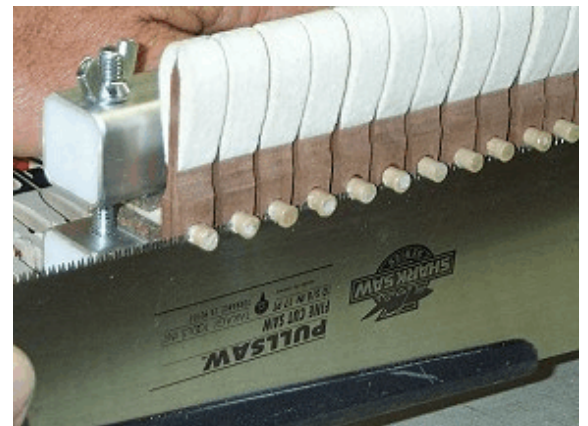

Figure 16: sawing off shank stubs
2. Saw the stubs flush: With the shanks still clamped, lay a very fine-tooth hand saw flat against the tails, teeth up. Hold the saw almost horizontal, so the teeth span several shanks at once as shown in Figure 16. Our #2410 Fine Cut pull-stroke saw (www.spurlocktools.com/id37.htm) cuts extremely fast and smooth with no splintering of the shanks.